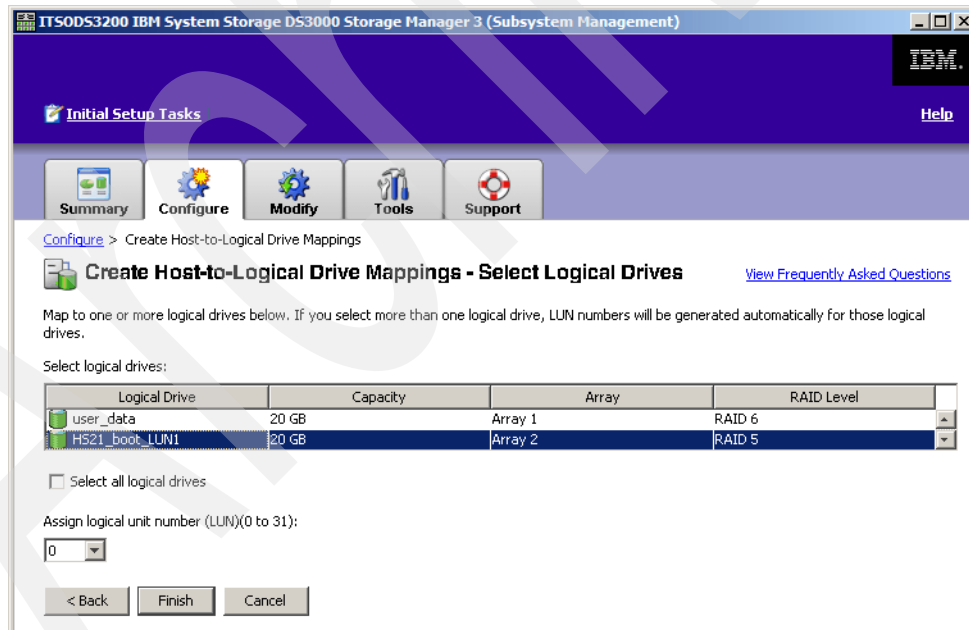

Figure 20-34 Logical volume selection
11. Select the boot volume created earlier (in our example, HS21\_boot\_LUN), and assign LUN ID = 0 to it, as shown in Figure 20-34. Click **Finish** to complete the step.